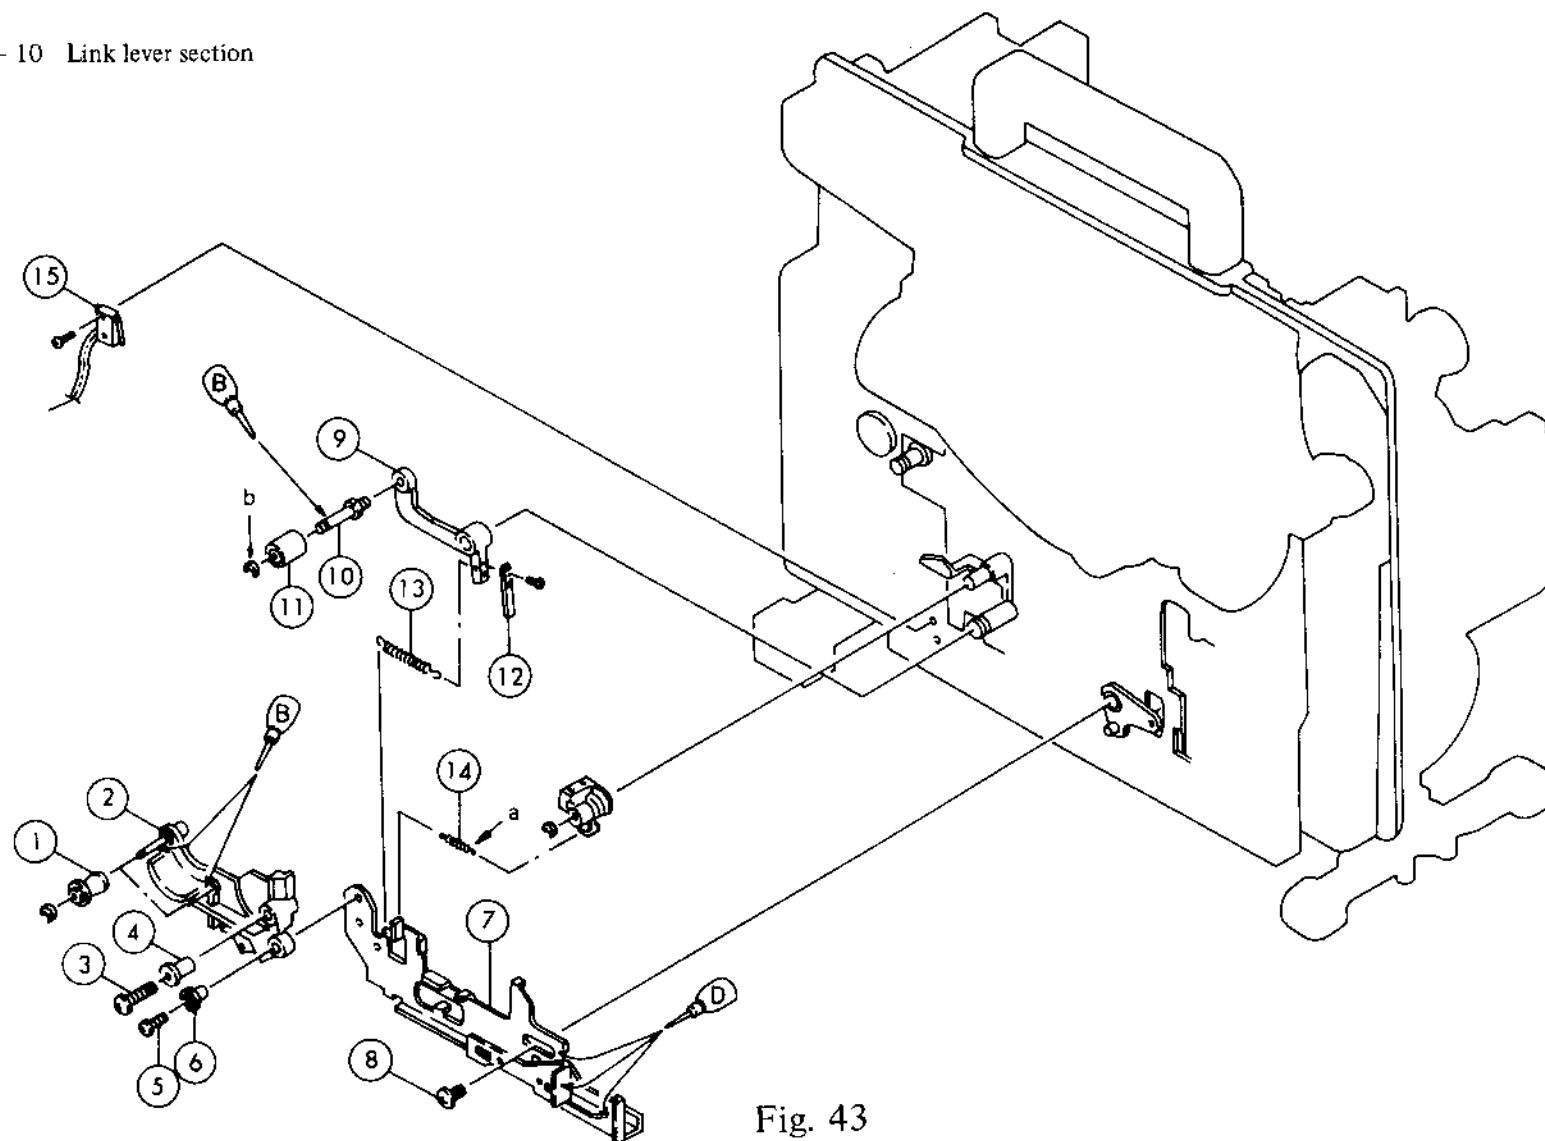

Fig. 43
1. Take out the assy parts of ① and ② by removing ⑤ and ③.
2. Remove ⑧ as well as ⑭ at "a" side, and take out knob main together with assy parts of ⑦ and ⑨, while turning the knob.
3. For further disassembly, refer to Fig. 43.